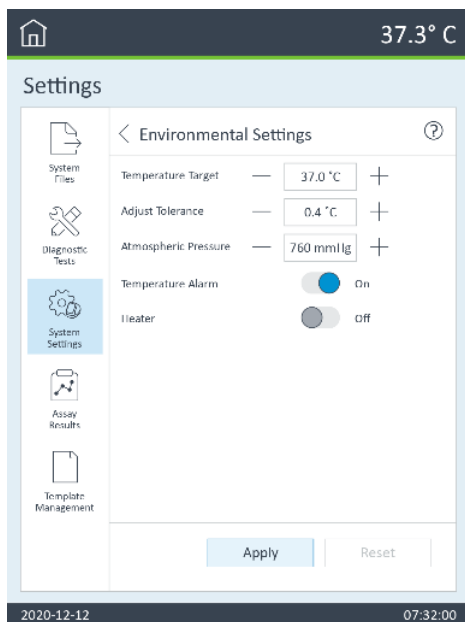

Figure 21. Temperature alarm window.
- b **Temperature alarm:** When enabled, the XF HS Mini Analyzer will automatically notify users (**Figure 21** on page 32) when the tray temperature of the XF HS Mini Analyzer is out of the acceptable range, as specified by the temperature tolerance above (only while running an assay on the XF HS Mini Analyzer).